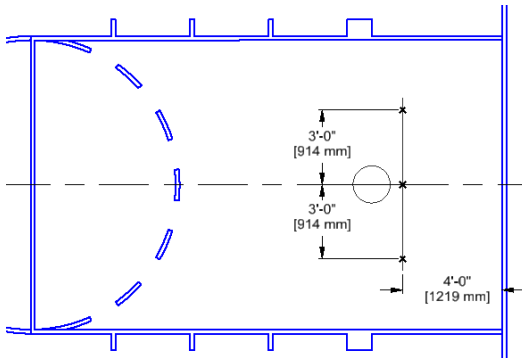

Figure 10
- Using masking tape and pencil, Mark the location of the center of the court 4'-0" [1219 mm] from the inside edge of the court baseline (refer to figure 10). From this center mark, establish a mark 3'-0" [914 mm] to the left and another mark 3'-0" [914 mm] to the right. These marks will be used to align the face of bank to the court.